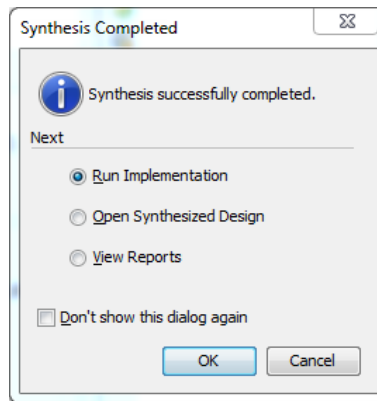

Figure 28: Synthesis Completed Dialog Box
2. After synthesis finishes, you can choose to have a look at the synthesised design, but finally you should **Run Implementation** in the Synthesis Completed dialog box (see Figure 28). While the synthesis step refers to refining the design to a generic format (e.g. similar to software being compiled to an intermediate format), the implementation step generates a design for the specific FPGA on your board (e.g. generating the assembly code from the intermediate format). Click **OK**.